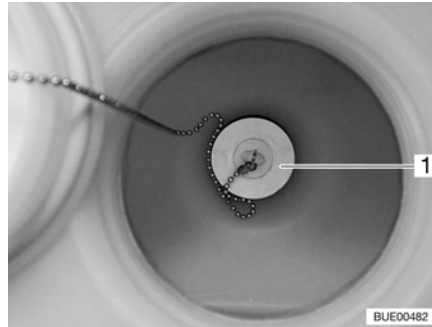

Fig. 88 Water tank
- Remove the stopper (Fig. 88,1) from the drainage opening. The water will drain.